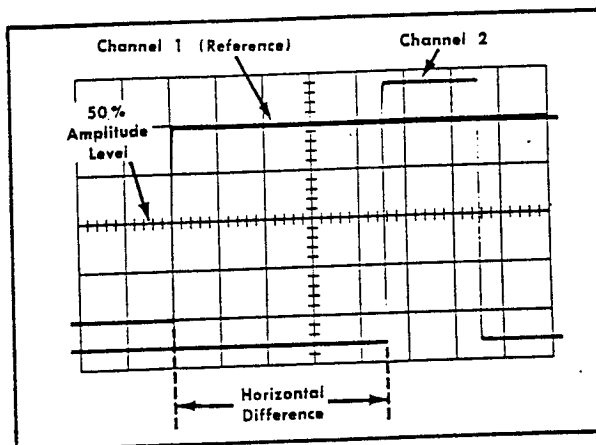

Fig. 2-18. Measuring time difference between two pulses.
11. Measure the horizontal difference between the Channel 1 waveform and the Channel 2 waveform (see Fig. 2-18).
**Example.** Assume that the TIME/DIV switch is set to 50  $\mu$ SEC, the MAG switch to  $\times 10$  and the horizontal difference between waveforms is 4.5 divisions (see Fig. 2-18).